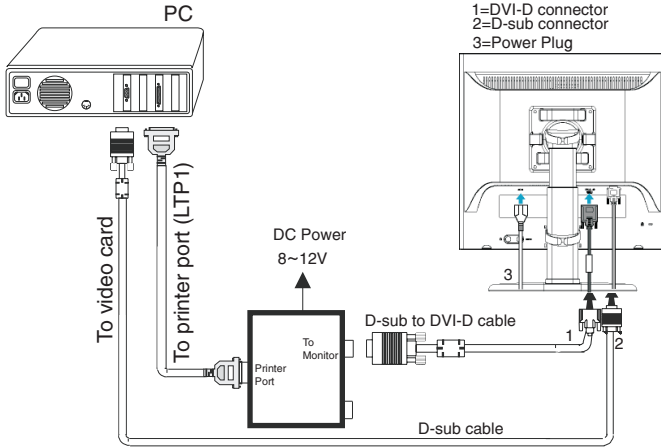

Fig. 31
**Step 1: After initialize alignment box, connecting all cables and box as shown in Fig. 31.**